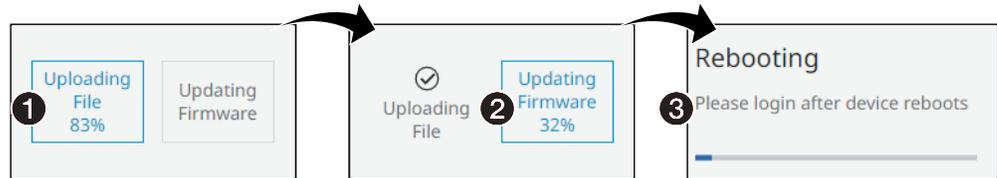

Figure 27. Firmware Upload Progress
5. Click **UPDATE** (2).
The encoder page displays a sequence that reports the progress as it uploads the file (see figure 27, 1), updates the firmware (2), and then reboots (3).